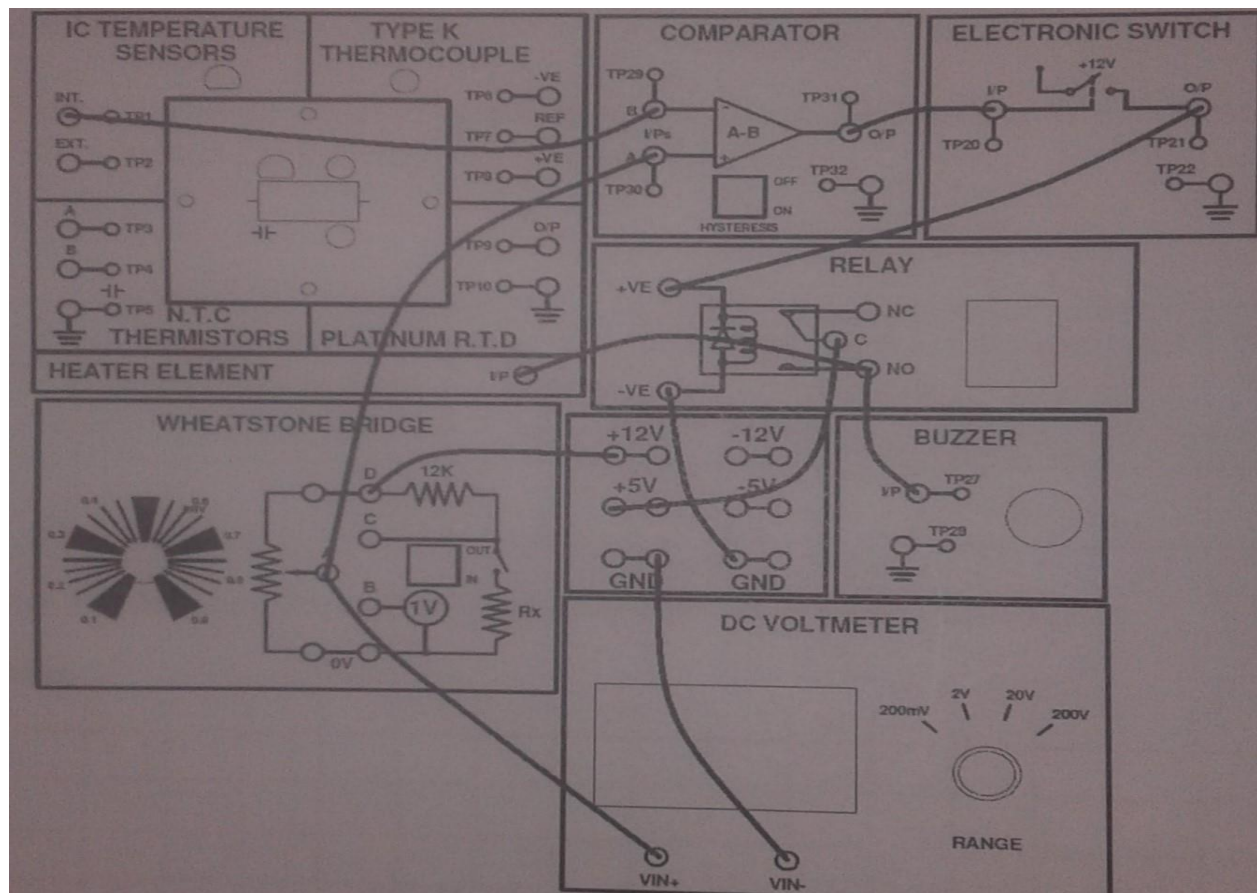

Figure 12.1 (Experimental Setup)
Refer to the fig 12.1 configure setup for present experiment.
- Connect the circuit as shown in fig 12.1. Switch the comparator HYSTERISIS OFF.